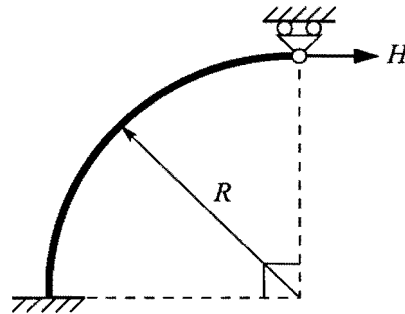

Figure 9
11. Figure 9 shows a curved cantilever identical to that in question 8 except that the free end is now simply supported. Use your results from question 8 to calculate the horizontal deflection due to the horizontal load, H .